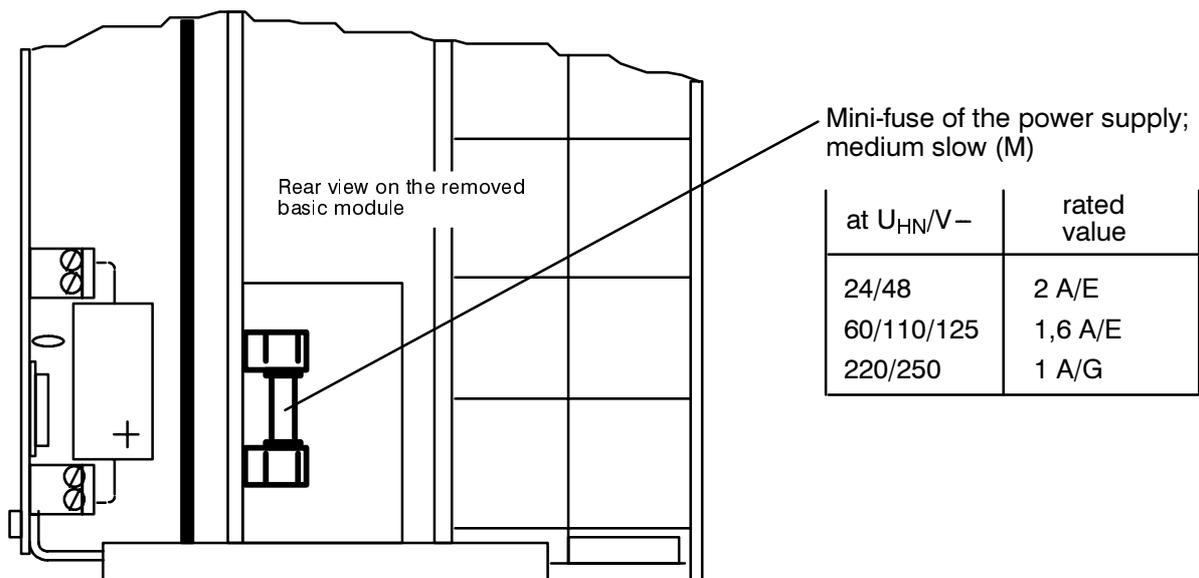

Figure 7.4 Mini-fuse of the power supply
- Has the mini-fuse in the power supply section blown (see Figure 7.4)? If appropriate, replace the fuse according to Section 7.3.1.
- Select a replacement fuse 5×20 mm. Ensure that the rated value, time lag (medium slow) and code letters are correct. (Figure 7.4).
- Remove blown fuse from the holder (Figure 7.4).
- Fit new fuse into the holder (Figure 7.4).